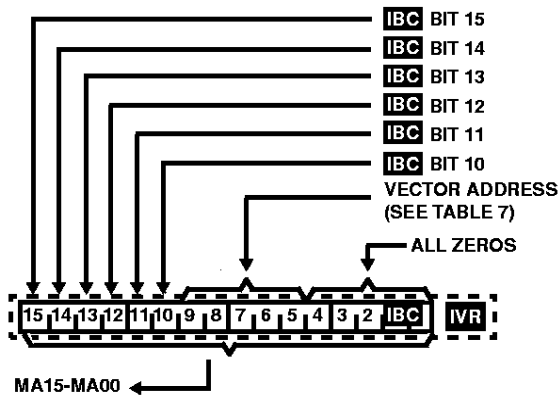

FIGURE 4. **IVR** BIT ASSIGNMENTS
**IVR**: The Interrupt Vector Register is a read-only register which holds the current Interrupt Vector value. See Figure 4 and Table 10.